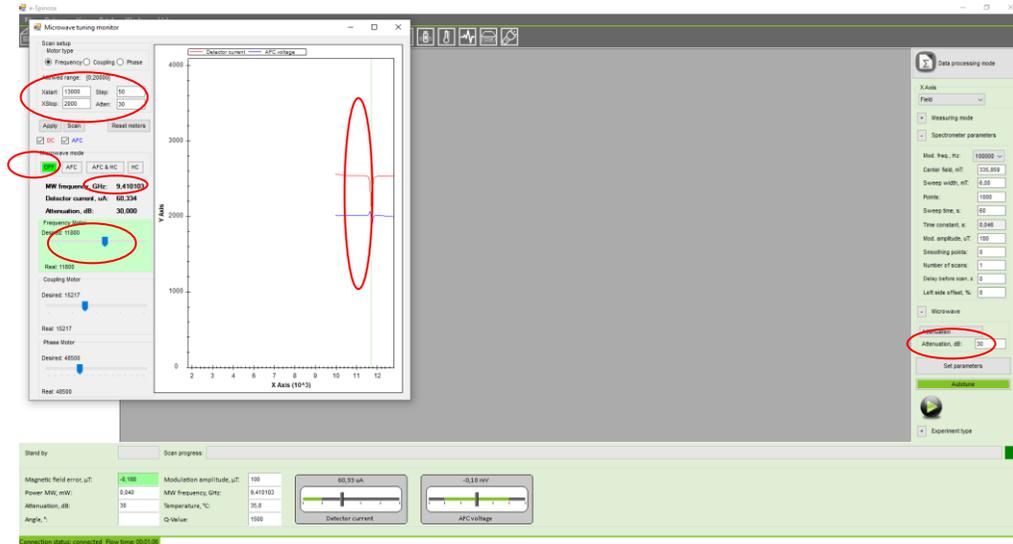

Figure 6.8
4. Open the **Microwave tuning monitor** window (Fig.6.8);
Once the scanning process is complete, find the resonance minimum microwave power on the detectors (the generator frequency is equal to the resonator frequency) (Fig. 6.8) and set the marker to this minimum by moving the engine slider. For subsequent manual tuning of the frequency, use the obtained value of the minimum Xfrq.